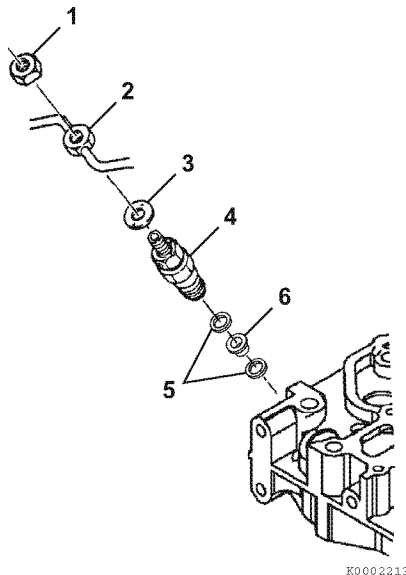

Figure 7-38
4. Remove nut (Figure 7-38, (1)). Remove the fuel return line (Figure 7-38, (2)) and copper washer (Figure 7-38, (3)) from the fuel injectors. See *Removal of Fuel Return Line* on page 7-13.
5. Remove the fuel injectors (Figure 7-38, (4)).
6. Remove the injector nozzle gaskets (Figure 7-38, (5)) and protector (Figure 7-38, (6)) from the cylinder head.